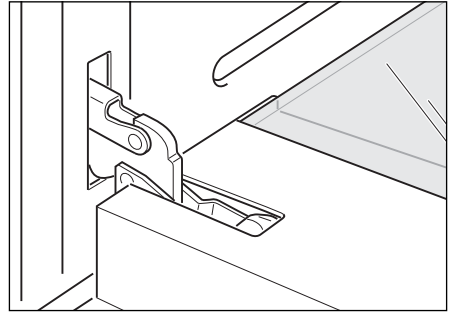

Fig.39a
- Open the door to the full extent (Fig. 39a).